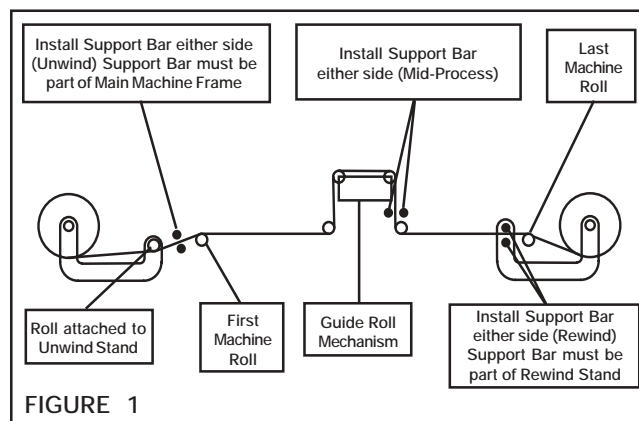

FIGURE 1
1. Provide a 1 In. [25 mm] square bar which will span the web (See Figure 1).
3. Mount the bar to the machine (See Figure 1).